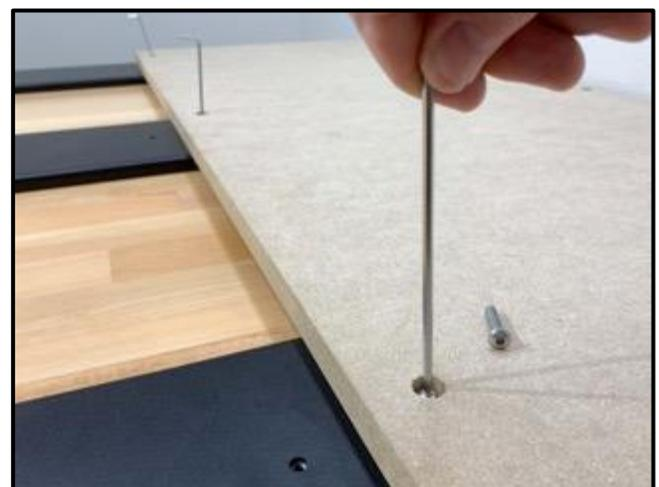

Figure 2-6
PRO TIP: Use one or more of the spare hex keys to align the screw holes as shown in *Figure 2-6*.
3. Use the 3mm hex key to insert three (3) M5x25mm button head cap screws through the three middle countersunk holes in the MDF baseplate and into the integrated nuts in the three cross straps as shown in *Figure 2-6*.